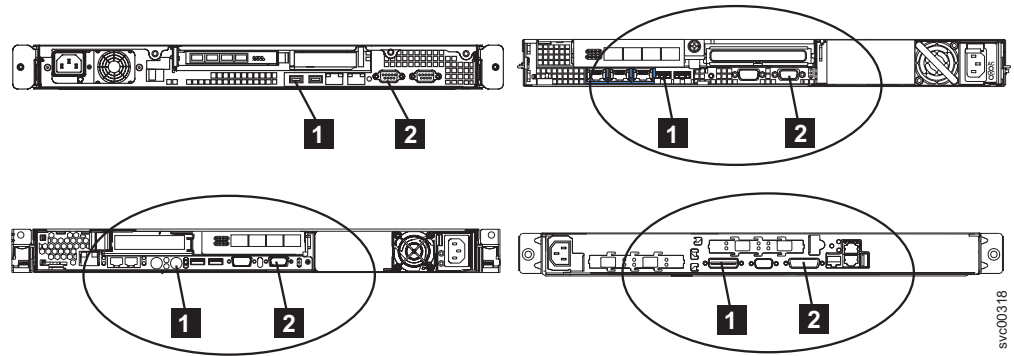

Figure 98. Keyboard and monitor ports on the SAN Volume Controller models 2145-8A4, 2145-8G4, and 2145-8F4 or 2145-8F2, and the SAN Volume Controller 2145-4F2
- b. Connect the keyboard **1** and the display **2**. Figure 98 on page 411 shows the location of the keyboard and monitor ports.